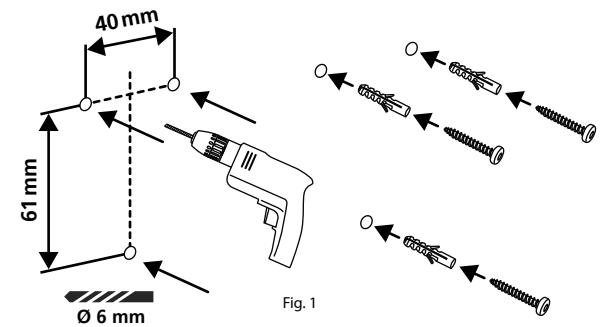

Fig. 1
① Drill three holes according to the dimensions shown in the illustration. Use a 6 mm diameter drill bit (Fig. 1).